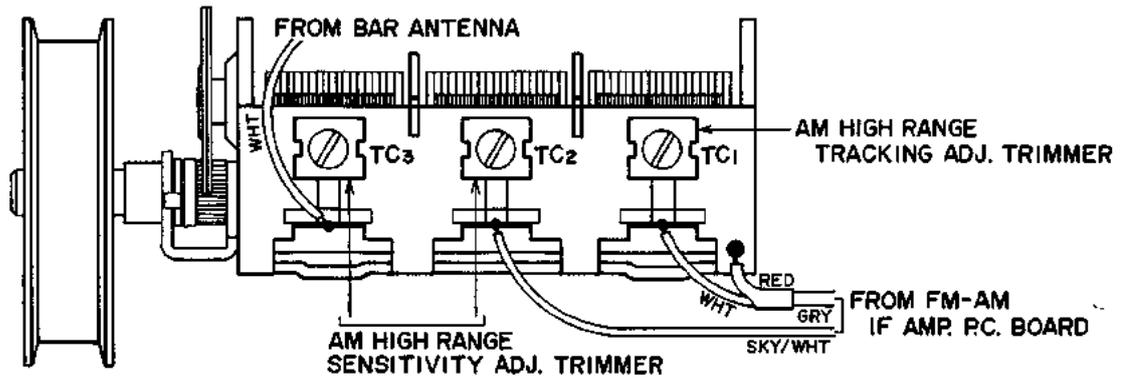

Fig. 20
- 6) Adjust Front End Trimmer Condenser in Figs. 20,21 until the distortion meter level is maximum and the distortion factor is minimum. (Refer to Chart 7)
- 8) Adjust Front End trimmer condensers in Figs. 20, 21 until the distortion meter level is maximum and the distortion factor is minimum. (Refer to Chart 8)